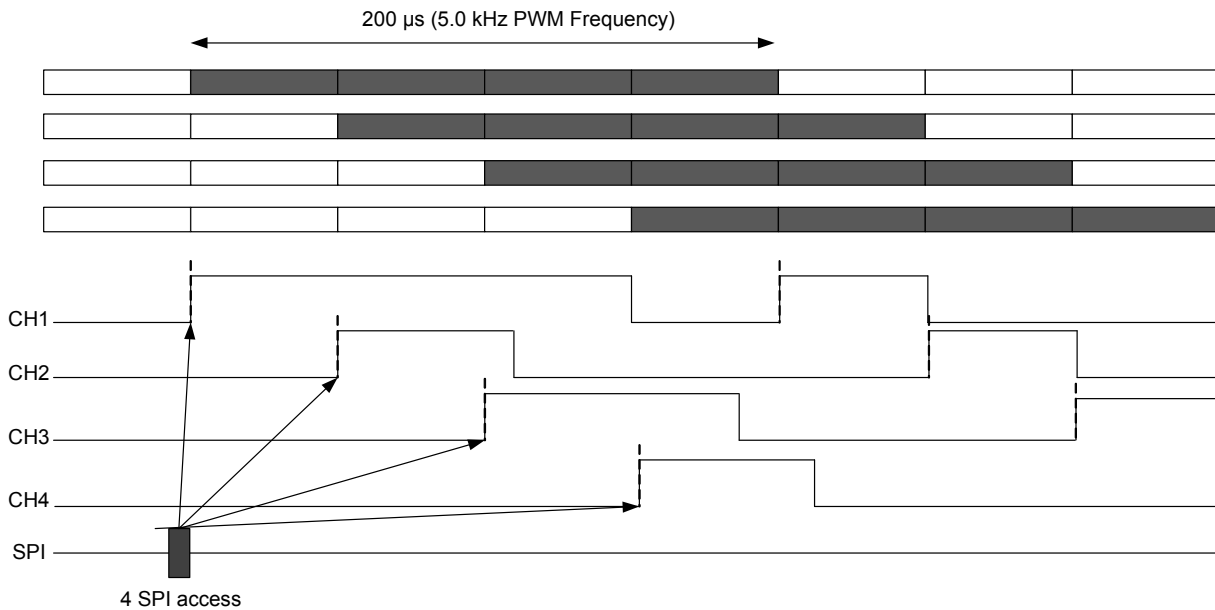

Figure 6. PWM valve control interleave
9. Digital: internal digital signal delivered by interleave synchronization block. See Figure 6.